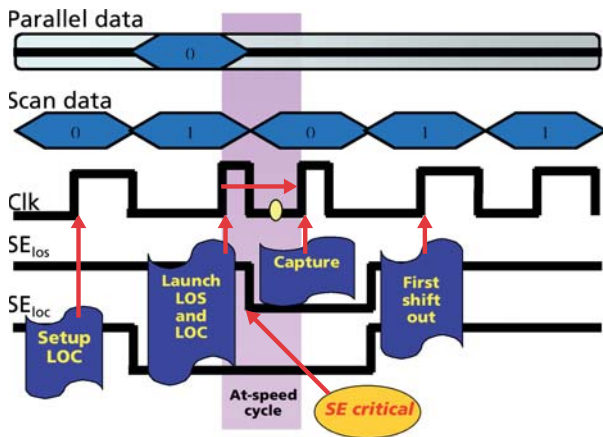

Figure 1: LOC versus LOS scan sequence differences
The other problem that confounds designers is the application of launch-on-shift (LOS) versus launch-on-capture (LOC) scan methods (see Figure 1). Most people who operate ATPG tools believe that LOS (or launch-on-last-shift) results in faster ATPG runtimes, higher coverage for AC-type vectors, and more compressed vectors. The tradeoffs are that 1) the hardware scan architecture must be modified to eliminate shift-bit dependencies (scan-chain bit ordering that restricts the ability to setup a fault or to launch a vector pair); 2) the scan-shift enable (SE) must now be routed as if it were the most critical signal in the part; and 3) the coverage may include false paths. Although it is somewhat true that LOS results in faster runtimes, the key driver of this technique is the mistaken assumption that *higher coverage* is